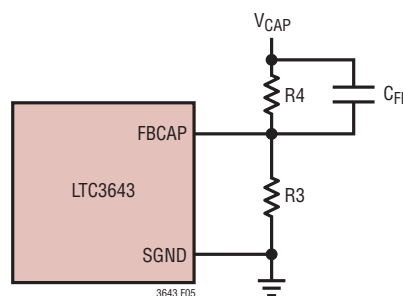

Figure 5. Setting The VCAP Voltage In Step-Up Mode
**FBCAP (Pin 9):** Feedback Input to the Error Amplifier of the Cap Voltage Regulation Loop. Connect a resistor divider tap to this pin. The CAP voltage can be adjusted such that  $V_{CAP} = 0.6V (1 + R4/R3)$  (See Figure 5).